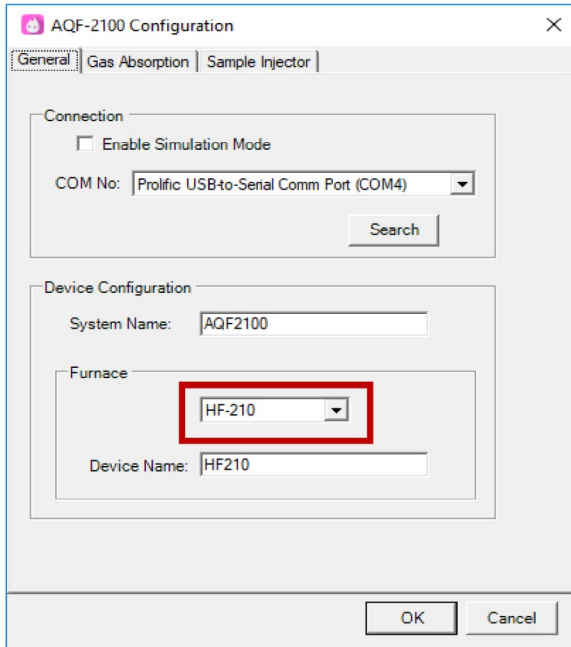

Figure 6. General tab. Select the furnace type.
3. In the lower part of the General tab, select the furnace module (Figure 6).